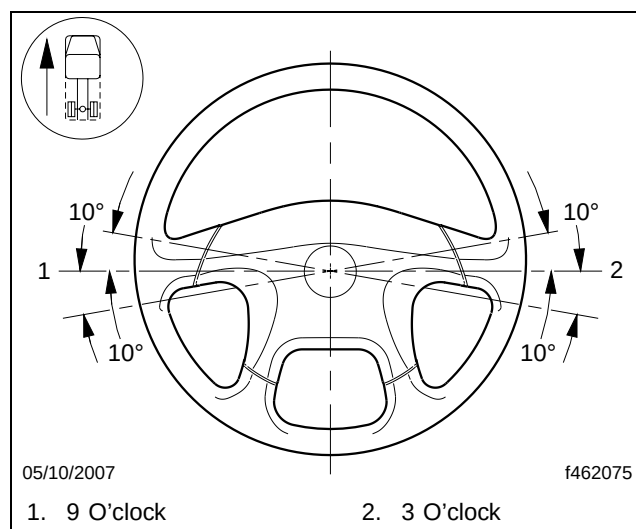

Fig. 13, Steering Wheel Centered
45. Make sure that the steering wheel is within 10 degrees of center as shown in **Fig. 13**. If it is not, remove and center the steering wheel.